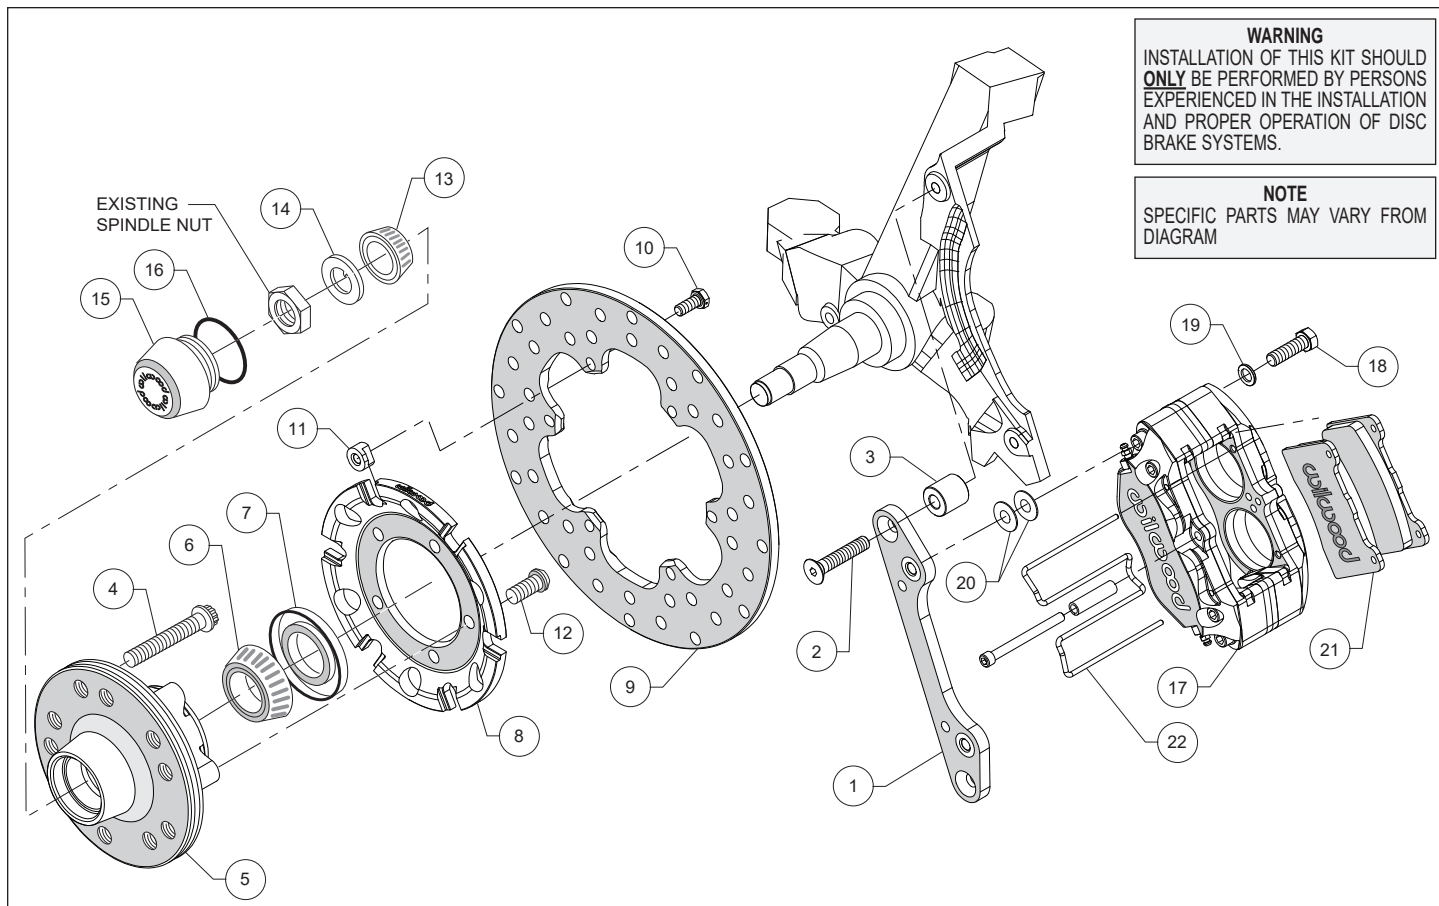
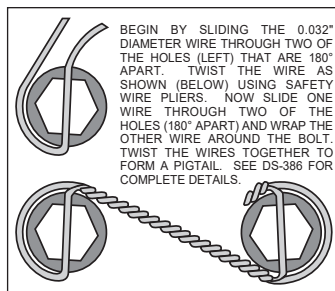
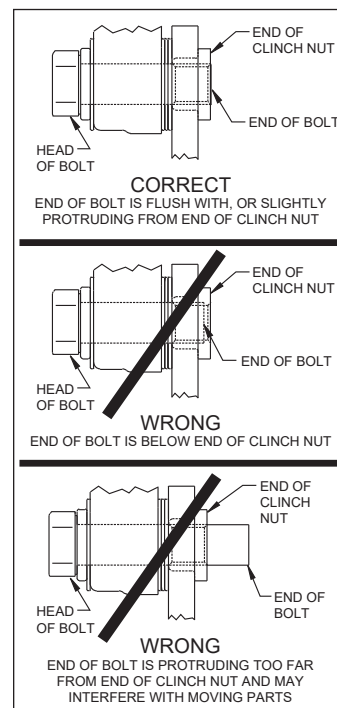

Figure 2. Typical Installation Configuration
Figure 4. Safety Wire Diagram
Figure 5. Clinch Nut Engagement Diagram
Assembly Instructions (numbers in parenthesis refer to the parts list, on the preceding page and Figure 2): **CAUTION:** All mounting bolts must fully engage clinch nuts. Be sure to check that all bolts are either flush or protruding through flanged side of clinch nut after shimming, Figure 5.
- Orient the caliper mounting bracket (1) as shown in Figure 2 and Photo 1. Attach using bolts (2) and spacers (3), Figure 2. Temporarily tighten the mounting bolts. Ensure that the flanged heads of the clinch nuts in the bracket are facing outboard, Photo 1. **NOTE:** The bracket must fit squarely against the mounting points on the spindle. Inspect for interference from casting irregularities, machining ridges, burrs, etc. Remove bolts one at a time, apply red *Loctite*® 271 to threads and torque to 30 ft-lbs.
- Orient the rotor (9) and the rotor adapter (8) as shown in Figure 2 and Photo 4. Attach the rotor to the adapter using bolts (10) and T-nuts (11). Using an alternating sequence, apply red *Loctite*® 271 to the threads, and torque to 220 in-lb. Safety wire bolts using standard 0.032 inch diameter stainless steel safety wire as shown in Figure 4. Refer to Wilwood's data sheet DS-386 (available at www.wilwood.com/Pdf/DataSheets/ds386.pdf) for complete safety wire installation instructions.
- Mount the adapter/rotor assembly (8 and 9) to the hub (5) using bolts (12), as shown in Figure 2 and Photo 5. Using an alternating sequence, apply red *Loctite*® 271 to the threads, and torque to 45 ft-lb.
as shown in Figure 2. Initially place two .035" thick shims (20) on each bolt between the caliper and the bracket, Photo 8. Temporarily tighten the mounting bolts and view the rotor (9) through the top opening of the caliper. The rotor should be centered in the caliper, Photo 9. If not, adjust by adding or subtracting shims (20) between the bracket and the caliper. Always use the same amount of shims on each of the two mounting bolts. **NOTE:** The end of each bolt must be flush with or slightly protruding from the head of the clinch nut, as shown in Figure 5. If necessary place spare shims (20) between washer (19) and caliper mounting ear to achieve the proper clinch nut engagement. Once the caliper alignment and clinch nut engagement are correct, remove the bolts one at a time, apply red *Loctite*® 271 to bolt threads, and torque to 40 ft-lb. For an added measure of security, the bolts may be safety wired using standard 0.032 inch diameter stainless steel safety wire as shown in Figure 4. Refer to Wilwood's data sheet DS-386 (available at www.wilwood.com/Pdf/DataSheets/ds386.pdf) for complete safety wire installation instructions.